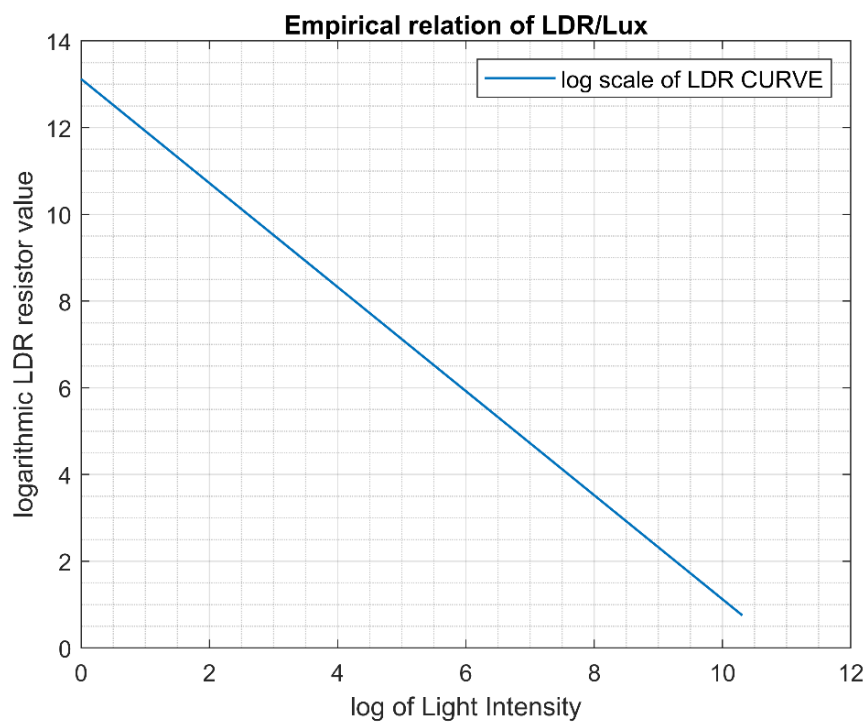

Figure 2: characteristic curve plotted on a log-log scale
4. Plot $\log(R)$ vs $\log(E)$ and determine the equation of the line (as shown in Figure 2).